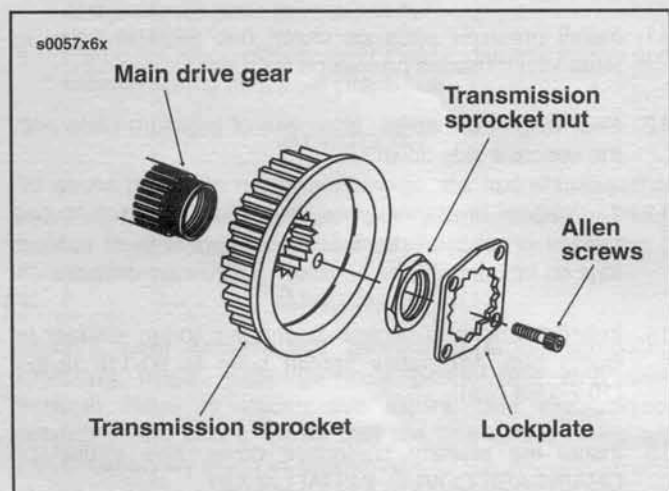

Figure 6-21. Transmission Sprocket
2. See Figure 6-21. Remove Allen screws and lockplate. Use TRANSMISSION SPROCKET TOOL, HD-41184, and remove the sprocket nut using MAINSHAFT LOCKNUT WRENCH, Part No. HD-94660-37B.